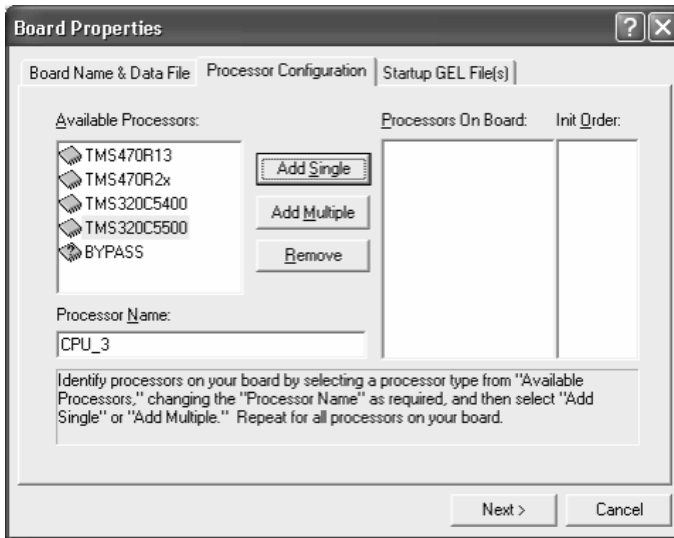

FIGURE 18
3. Leave the Diagnostic Utility and Arguments fields empty and click Next to begin the processor selection process. The dialog box shown in Figure 18 will appear.